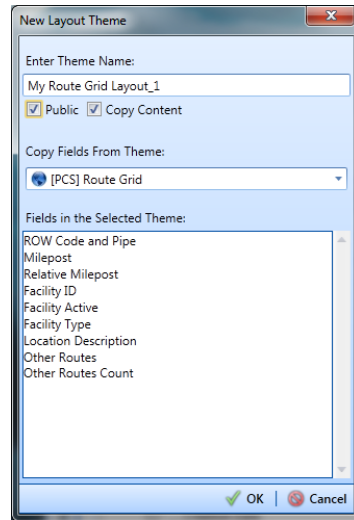

Figure 7-43. New Layout Theme
- 4 Click  **Add** to open the *New Layout Theme* dialog box (Figure 7-43, page 329).